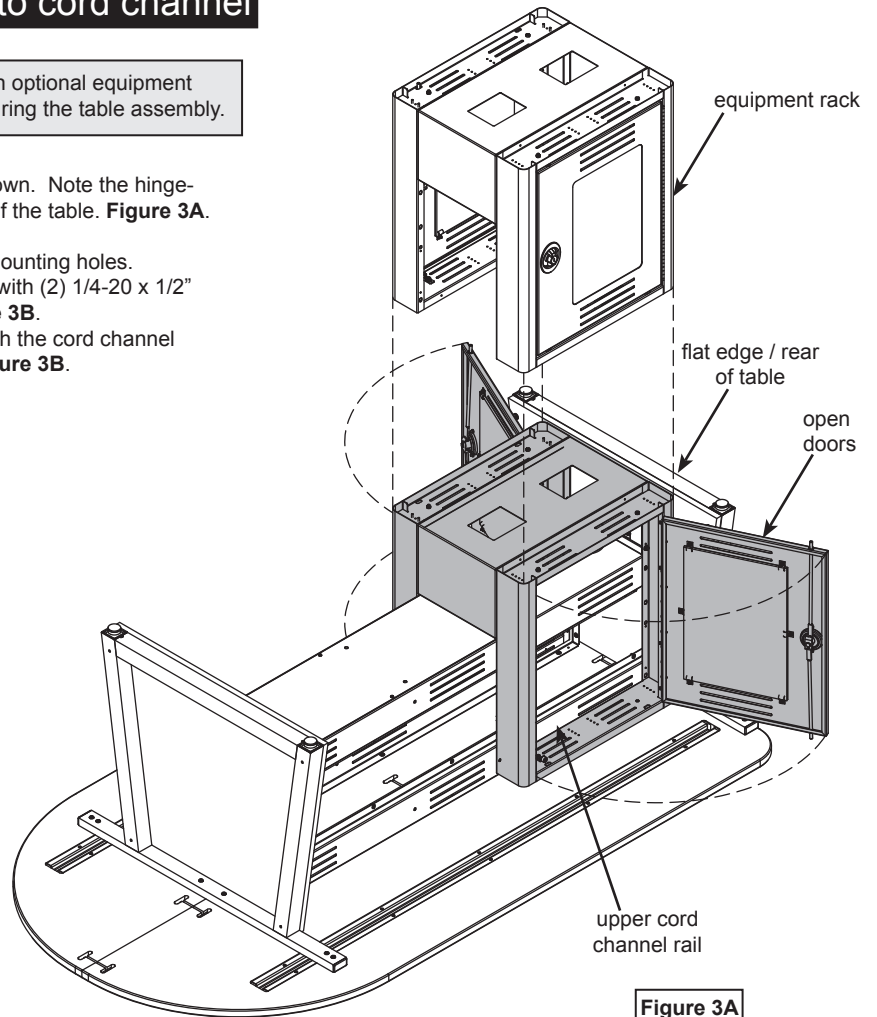

Figure 3A
- A. Lower the equipment rack over the cord channel as shown. Note the hinge-side of each door will go toward the flat edge (or rear) of the table. **Figure 3A.**